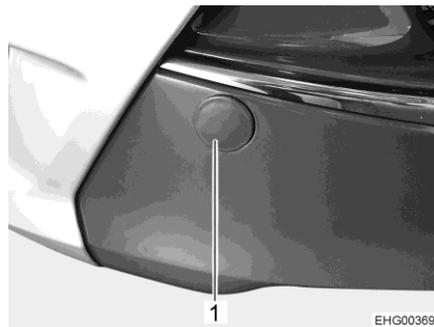

Fig. 40 Cover for the towing eye holder
- Remove the cover (Fig. 40,1).